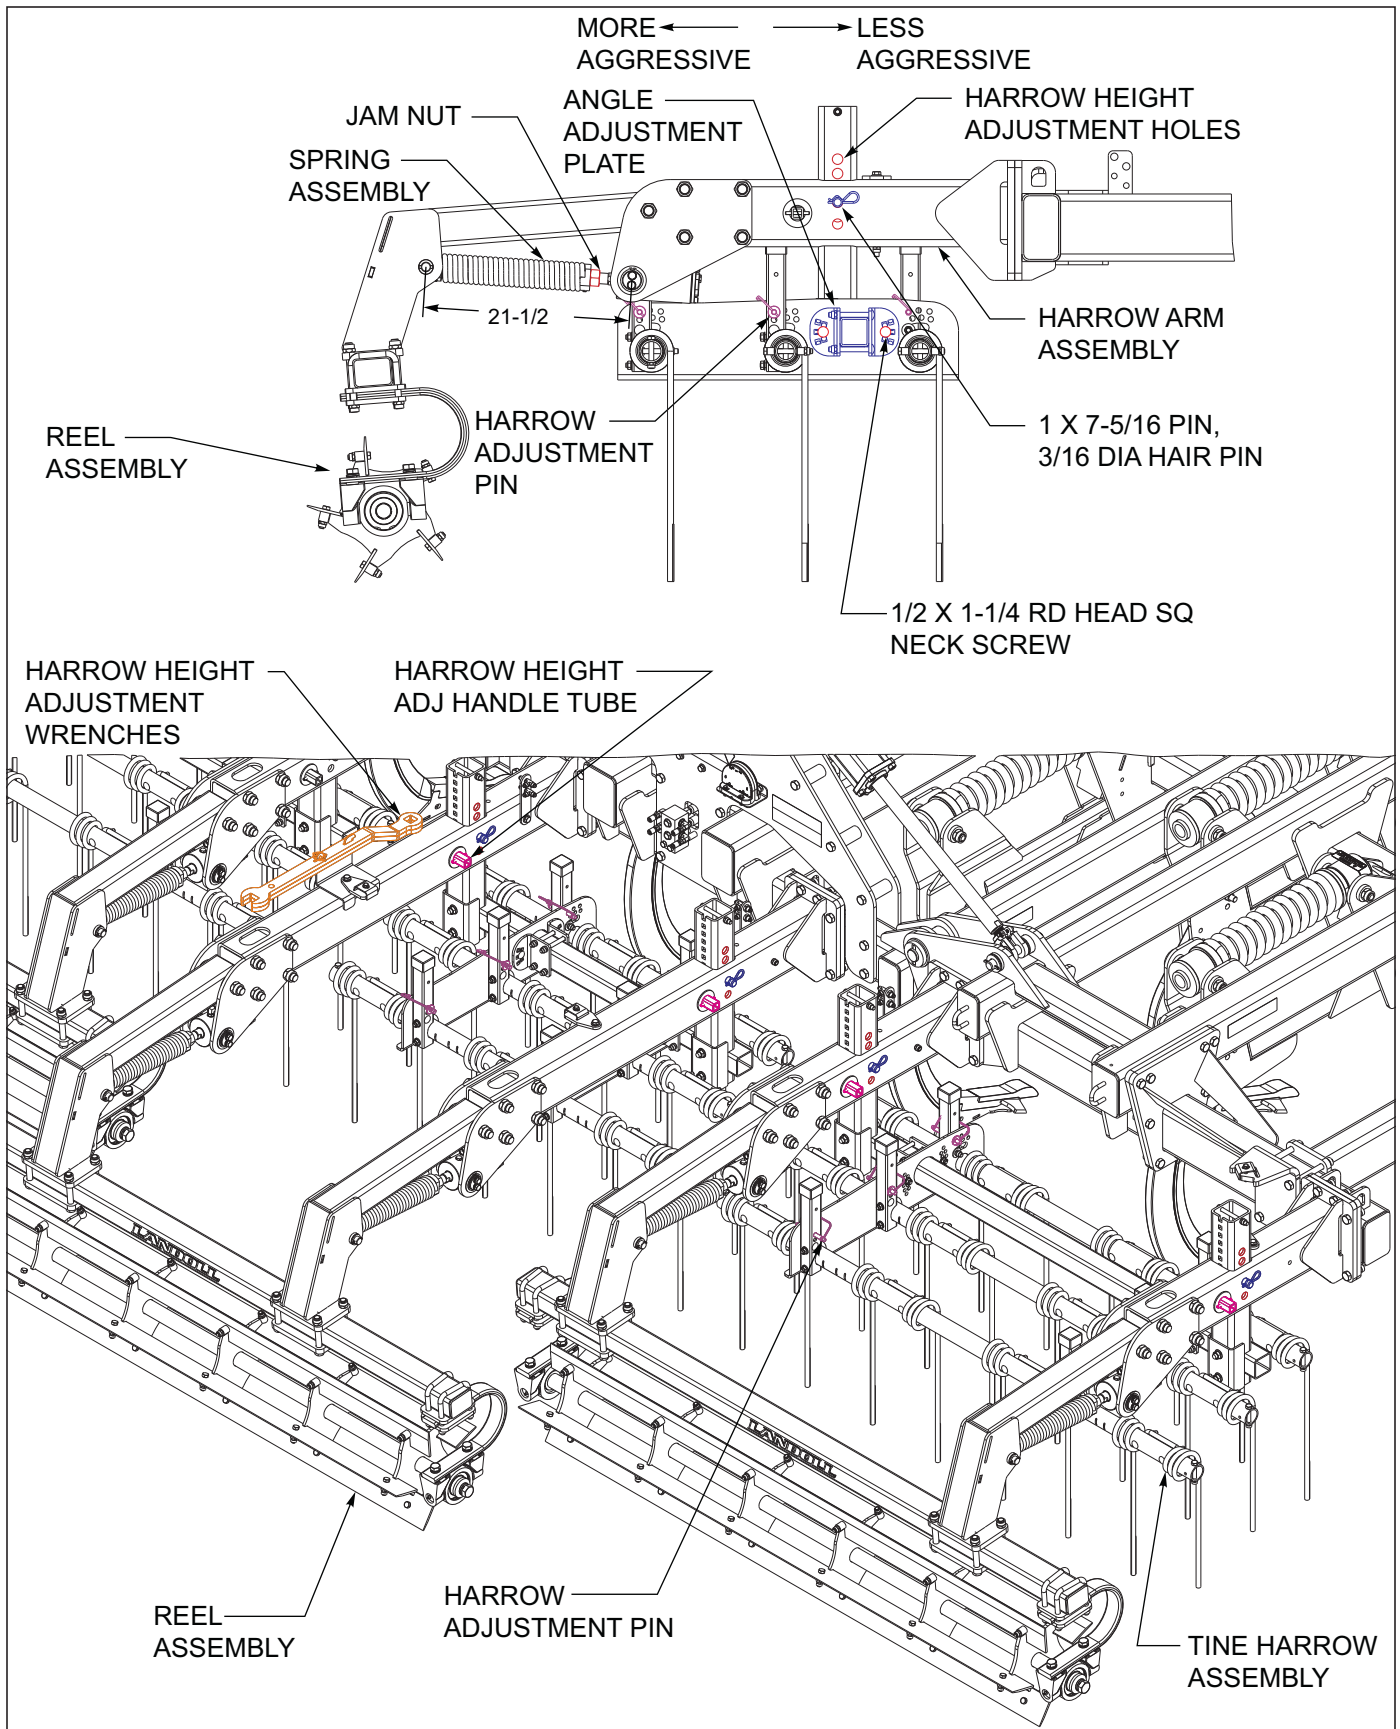

Figure 4-14: 3BCT-Chopper Reel Adjustments
3. The coil tine harrow should run level with the coulters chisel frame. If this needs adjusted, remove the 1/2 x 1-1/4 rd head sq neck screws and rotate tine assembly to level, re-install screws and nuts. When operating the coil tine harrow, a more vertical tine tooth angle will make the harrow more aggressive. A lower/flatter tine angle will make the harrow less aggressive but will handle more residue and wetter conditions. To change the tine angle, raise the harrow off the ground. Remove the harrow pin from both angle adjustment tubes per tine gang bar tube **See Figure 4-14**. Rotate the angle adjustment tubes forward (less aggressive) or rearward (more aggressive) and reinstall both spring clip pins. Repeat the tine adjustment for each tine gang bar tube and harrow section. Each row can be adjusted as needed, all three rows do not need to be set at the same tine angle.
6. Reels are set to 21-1/2" from Landoll. To adjust the standard reel height, loosen the locking hex nut against the threaded spring end **See Figure 4-14**. The hydraulic reel can be raised as needed to prevent plugging.